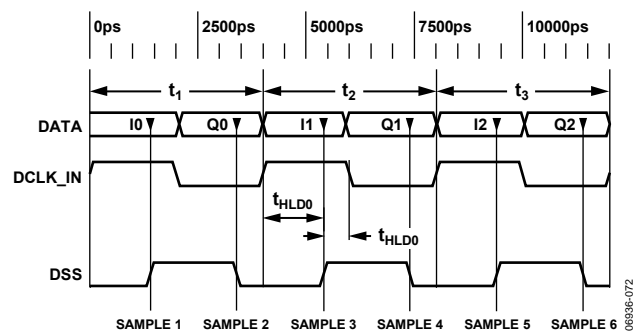

Figure 57. Digital Data Timing
3. With SMP and HLD set to 0, increment the SET until the SEEK bit toggles and record the SET value. This measures the set-up time as shown in Figure 57.